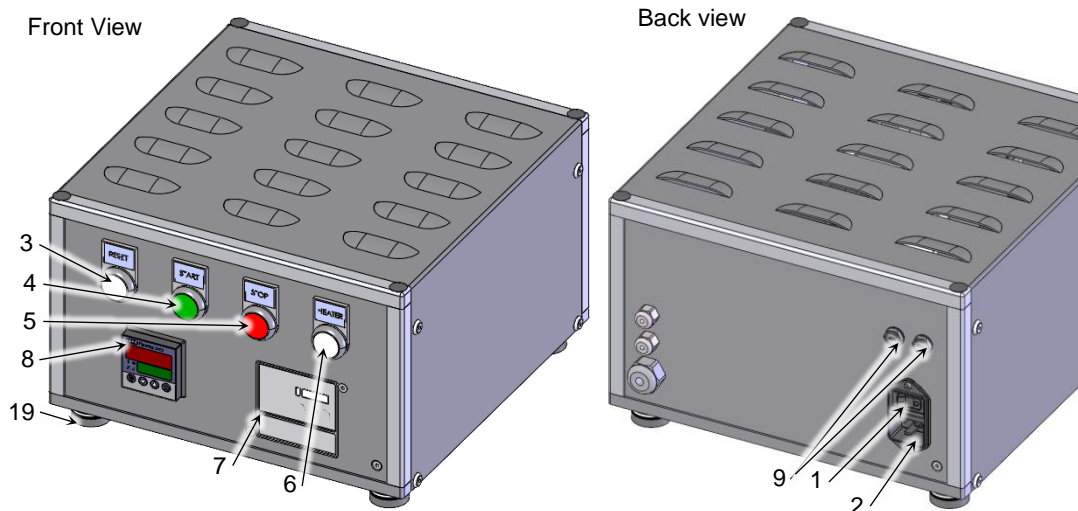

Abb. 1 Overview electronic unit
- Screw the 4 knurled screws (19, Fig. 1) into the threaded holes on the bottom of the abrasion tester.
- Connect the electronic unit with the abrasion tester (20/21/22, Fig. 1).
- Connect the Electronic Unit to the power supply at the power supply socket (2, Fig. 1) using the power cord.
- Switch on the abrasion tester with the POWER switch (1, Fig. 1) on the rear of the electronic unit.
The RESET button (3, Fig. 1) lights up white.
The drum is rotated at a reduced speed by tapping the START button (4, Fig. 1) so that the relevant horizontal mark is easily accessible.